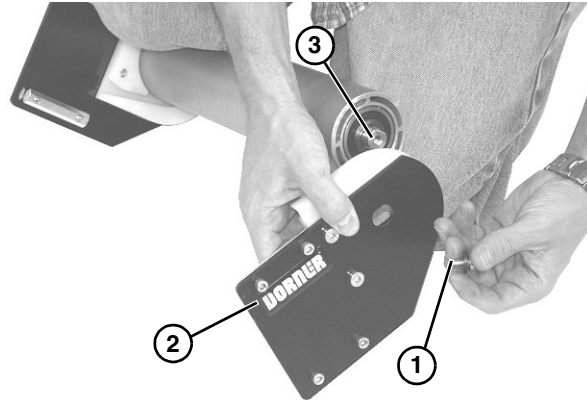

Figure 51
4. Remove socket head screw (Figure 51, item 1) from plate (Figure 51, item 2) and center of spindle shaft (Figure 51, item 3). Repeat procedure on opposite side.